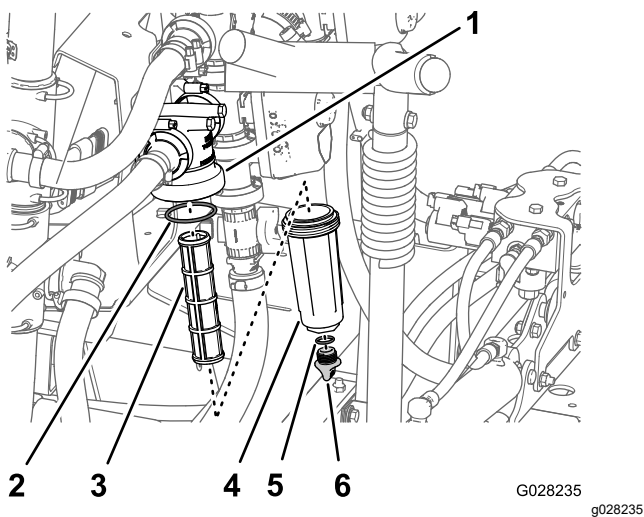

Figure 146
2. Align a drain pan under the pressure filter (Figure 146).
3. Rotate the drain plug counterclockwise and remove it from the bowl of the pressure filter (Figure 146).
4. Rotate the bowl counterclockwise and remove it from its filter head (Figure 146).
5. Remove the old pressure-filter element (Figure 146).
6. Check the O-ring for the drain plug (located inside the bowl) and the O-ring for the bowl (located inside the filter head) for damage and wear (Figure 146).
7. Install the new pressure-filter element into the filter head (Figure 146).
8. Install the bowl onto the filter head and tighten by hand (Figure 146).
9. Install the plug into the bowl and tighten by hand (Figure 146).